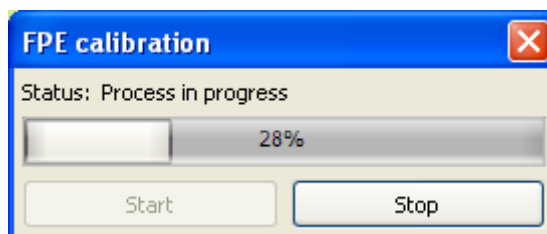

Fig. 21 Calibration of the fuel pressure emulator
- **FPE²** – this option activates the integrated petrol pressure emulator, required for vehicles that generate fuel pressure errors when the engine is fuelled by gas. In order to use the option, connect the controller to the petrol pressure control circuits as shown on figure 8, according to recommendations presented in Table 1. Next, perform emulator calibration (Figure 21). In order to initiate the procedure, press the Start button and start the engine that has been warmed up earlier. The calibration is an automatic process and takes about 3 minutes. Correct calibration will end with the “Completed successfully” message.